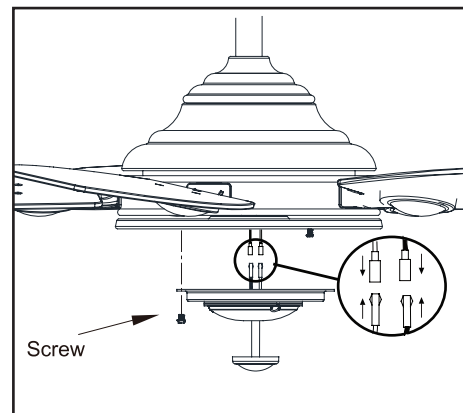

Figure 14
3. Remove one screw from the light kit pan and loosen, but do not remove the other two screws. Connect the wires from the light kit fitter assembly to the wires from the fan motor assembly by connecting the molded adaptor plugs together. Carefully tuck all wires and splices into the switch cap. (Figure 14)
4. Push the light kit fitter assembly up so that the two loosened screw heads fit into the keyhole slots. Turn the light kit fitter assembly clockwise, tighten the screws. Re-install the screw that was removed in step 3 and tighten firmly. (Figure 14)